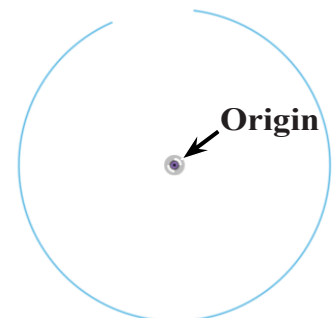

Fig. 2
Step 3. Sketch a slightly open arc starting from the Origin , Fig. 2. To sketch the arc, click the Origin to place the center of the arc. Start the first arc endpoint directly above the Origin, then swing the arc to the right around counterclockwise. Click to place the second endpoint leaving a gap between endpoints.